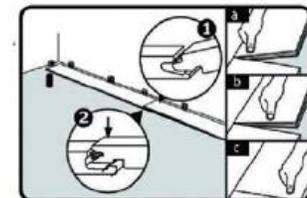

Figure 3
3. Install the second plank in the first row by laying the short-end Tongue onto the previously installed plank short-end groove. fasten the planks together by firmly pressing down with your thumb along the seam to line up edges the planks together. Use of a soft, whit rubber mallet is recommended to fasten the Tongue & groove together You will feel the planks lock together. (Figure 3)